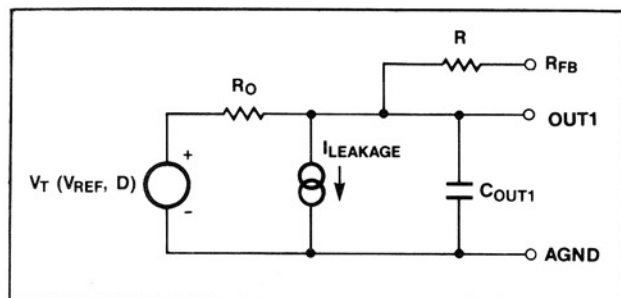

Figure 2. MX7548 Equivalent Analog Output Circuit
Figure 2 shows the equivalent circuits for the MX7548 analog section. The $I_{LEAKAGE}$ current sources represent junction and surface leakage currents. The equivalent output resistor of the DAC is R_O , which varies with digital input code from $0.8R$ to $2R$ (infinite at zero code), where R is typically 11k Ω . Capacitor C_{OUT1} represents the capacitances of the switches used in the R-2R ladder. When inputs are switched from low to high, the capacitance at OUT1 changes from about 40pF to 100pF. This capacitance is code-dependent and is a function of the number of ON switches that are connected to the output. $V_T(V_{REF}, D)$ is the equivalent voltage source controlled by V_{REF} and the digital input code (D).